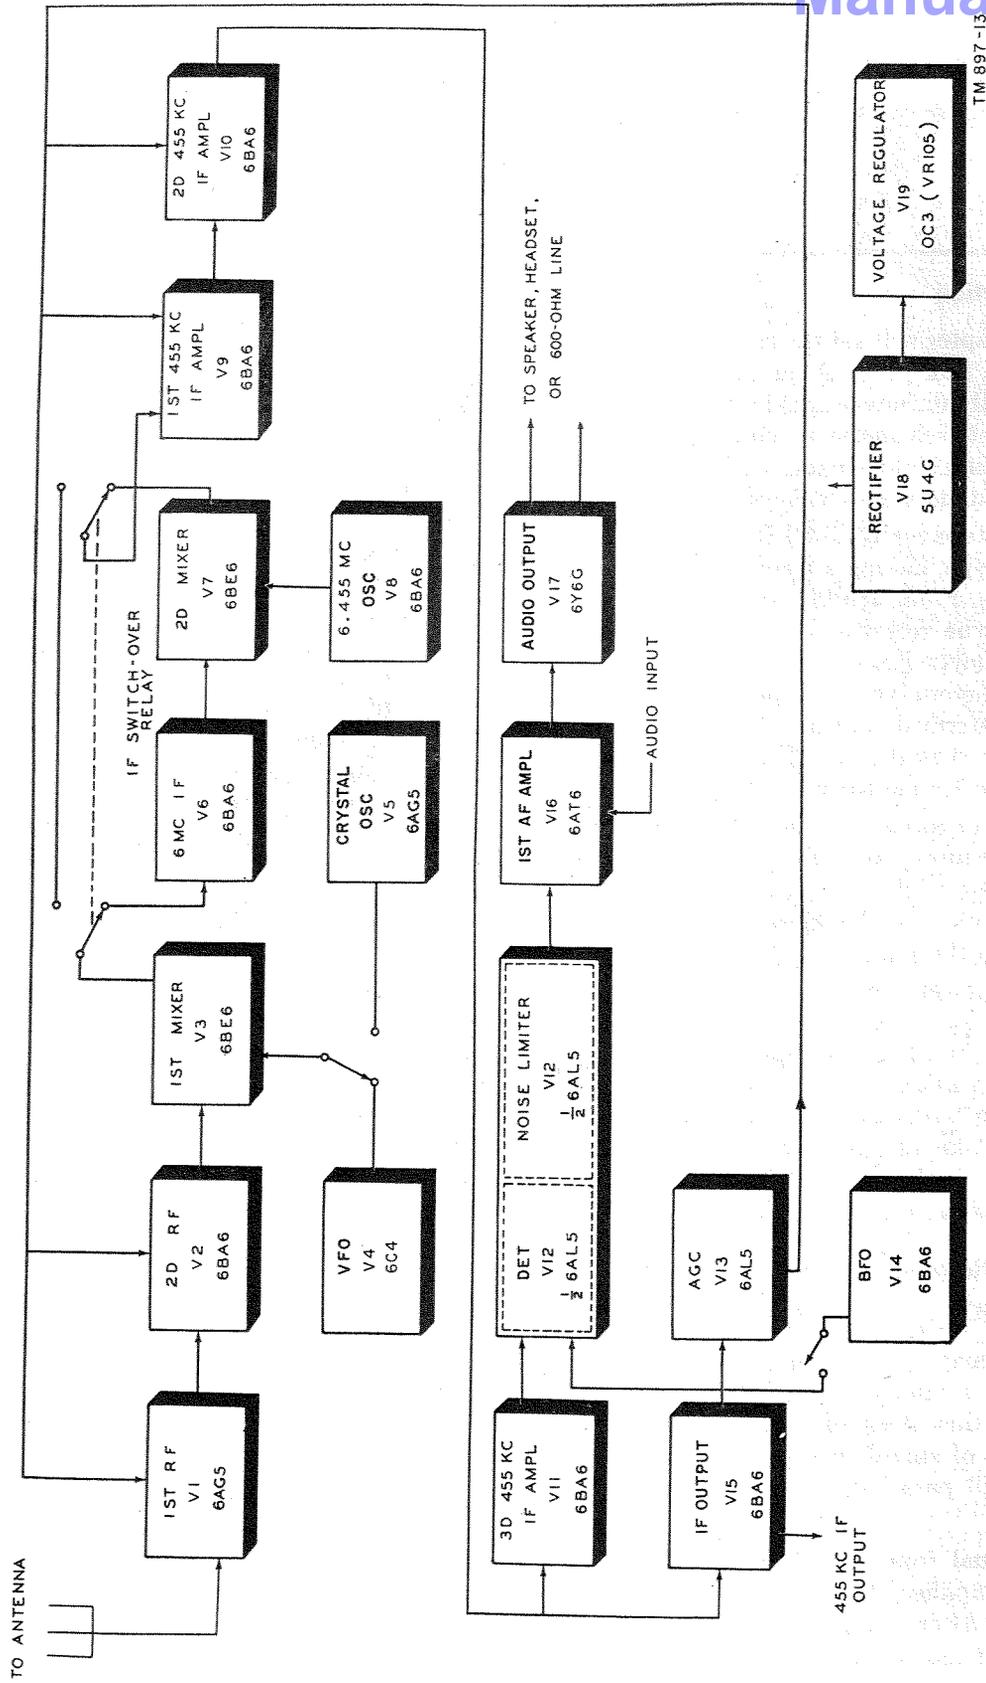

Figure 13. Radio Receiver R-274/RR, block diagram.
(fig. 13)
*a.* The signal path through Radio Receiver R-274/FRR is shown in the block diagram (fig. 13). Study this block diagram and fix in mind the sequence of stages through which the incoming signal will pass before it reaches the output terminals.